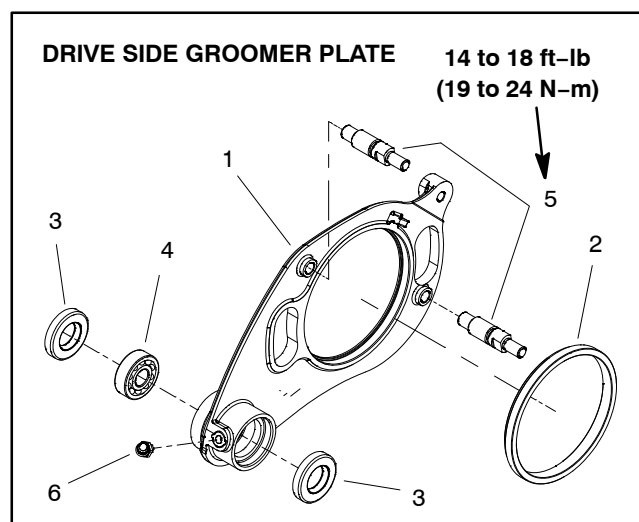

Figure 11
1. If seals, bearings or bushing was removed from either of the groomer plates, install new components noting proper orientation as shown in Figures 11, 12 and 13.